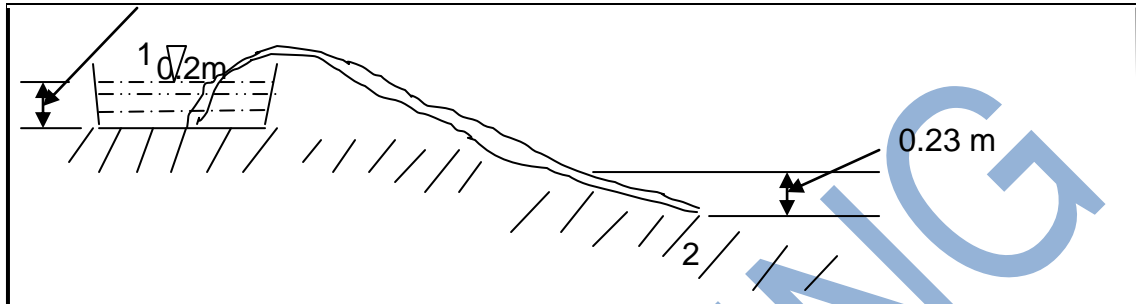

FIGURE 2
- 4.6 A smooth plastic garden hose is 10 m long with inside diameter of 20 mm. It is used to drain a wading pool (shallow pool) as shown in FIGURE 2 below.